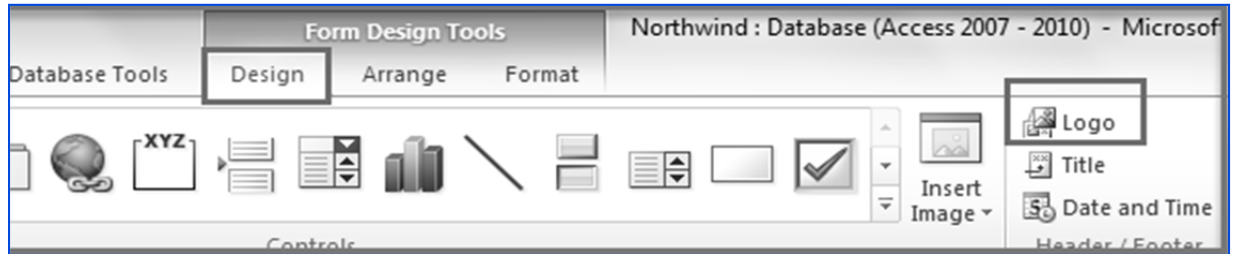

Fig. 4.3.17: Form Design Tools View
2. Click *Design* -> *Controls* -> *logo* button and browse to the *logo image*, as shown in Fig. 4.3.17.